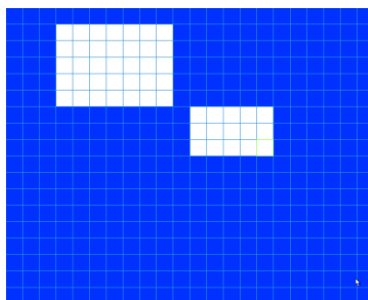

Figure 4-25
- Region: Click select button, the interface is shown as in Figure 4-25. Here you can set motion detection zone. There are 396(PAL)/330(NTSC) small zones. Blue zone is the motion detection zone. White zone is the disarmed zone. System can only detect motion detect signal from the arm region. You can click Fn button to switch between the arm mode and disarm mode. In arm mode, you can click the direction buttons to move the green rectangle to set the motion detection zone. After you completed the setup, please click ENTER button to exit current setup. Do remember click save button to save current setup. If you click ESC button to exit the region setup interface system will not save your zone setup.
In Figure 4-25, you can left click mouse and then drag it to set a region for motion detection.